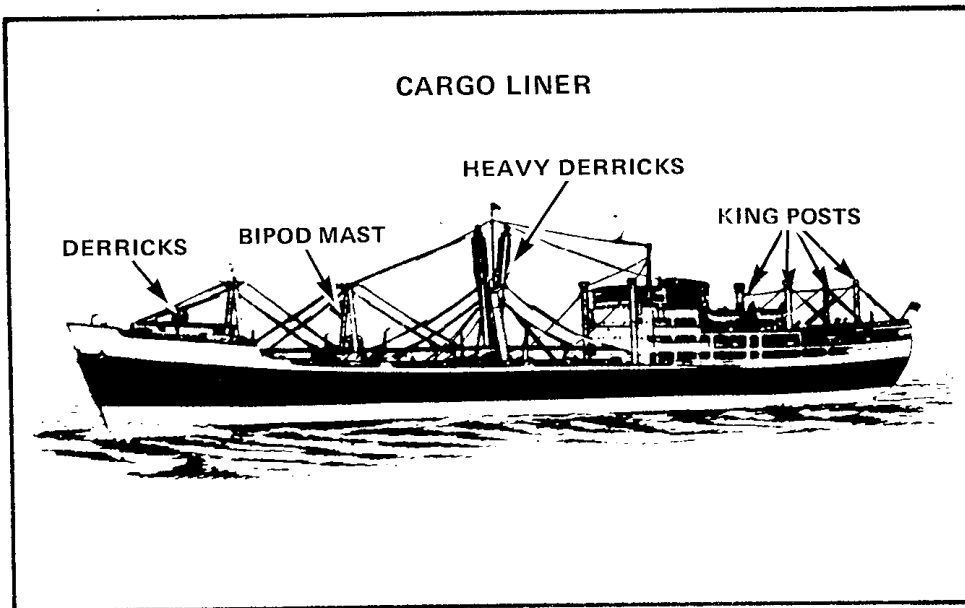

Figure 8-56 Cargo Liner
- u. **Heavy or Jumbo Derrick** — Larger and heavier type of derrick which is usually clamped against its mast at sea. (See Figures 8-56 and 8-57.)
- b. **Cargo Liner** — (See Figures 8-56 and 8-57.) Cargo liners are designed chiefly for carrying cargo, but they have accommodation for a small number of passengers. They vary in size from about 5,000 to 15,000 tons gross, with speeds from 12 to 19 knots. They can be distinguished by the number of derricks for working cargo, by the **superstructure**, which is larger than that of the normal cargo vessel, and by the **number of lifeboats**.